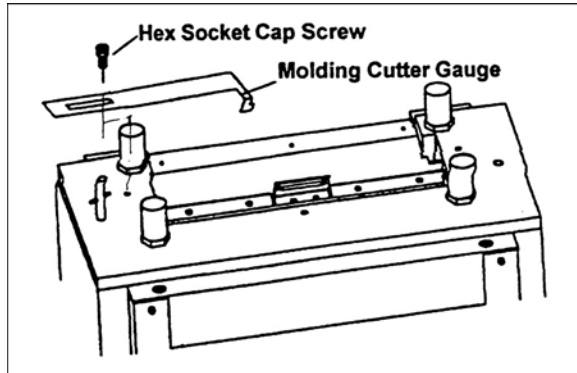

Figure 16
8. Install molding cutter gauge with hex socket cap screw and tighten to hold in place. The guide may be attached to either side. See Figure 16.